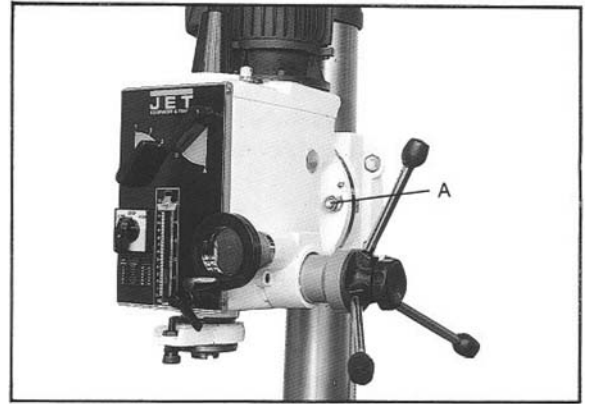

Figure 17
2. Loosen nuts (A, Figure 17).